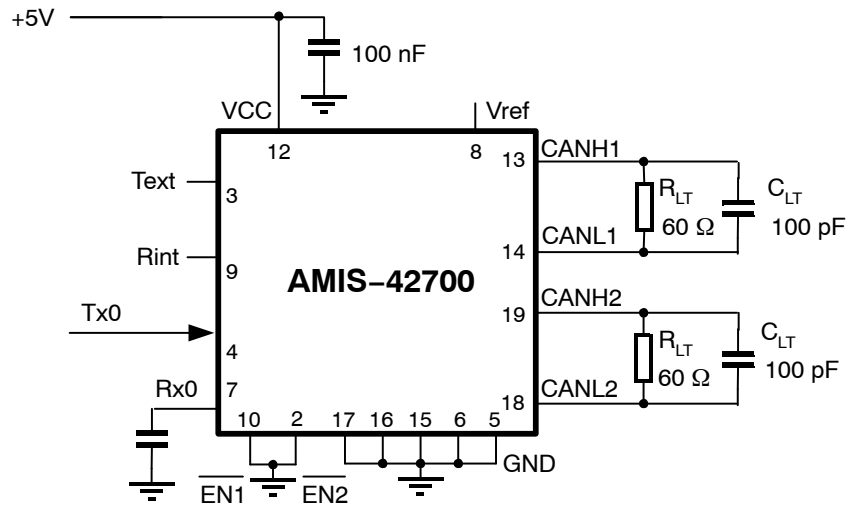

Figure 7. Test Circuit for Timing Characteristics
**TIMING CHARACTERISTICS** (see Figures 7 and 8)